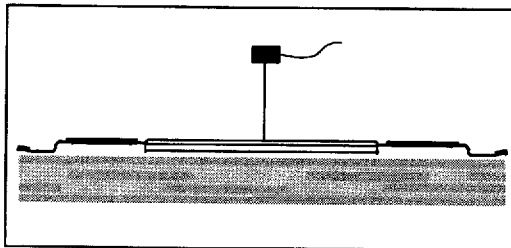

Figure 20. Technique for Measuring Case Temperature (T_C)
- The thermocouple should be attached at a 90° angle as shown in Figure 20.